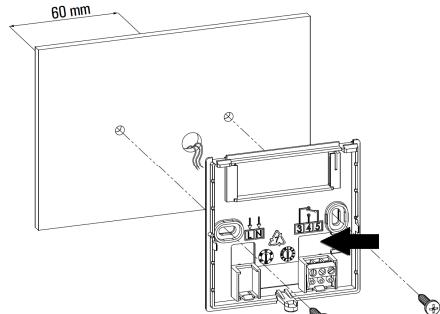

Fig. 6
- Fix the base directly on a wall or on 2-modules wiring boxes through the two screws seats with 60 mm wheelbase paying attention to push the cables through the hole as shown in Fig. 6.